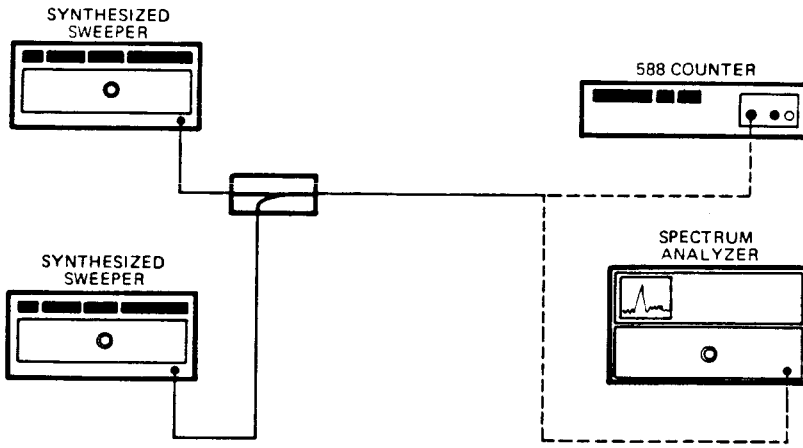

Figure 4-12. Band 1 Amplitude Discrimination Test Setup
1. Connect equipment as shown in Figure 4-12.